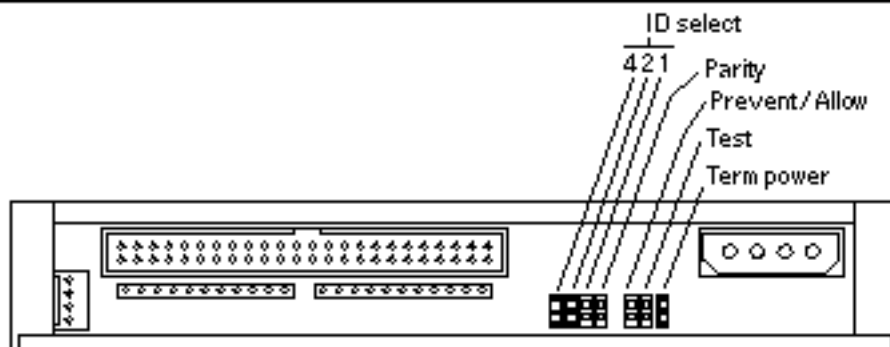

Figure 9-5 Jumper Settings for SPARCstation 5 CD-ROM Drive
2. **Make sure the jumper settings on the replacement drive match those shown in Figure 9-5.**